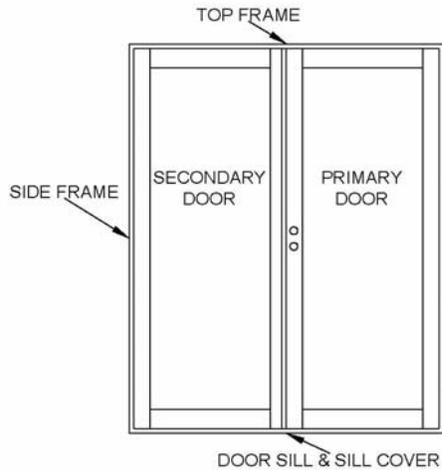

Fig. 1
2. View from exterior (Fig. 1).